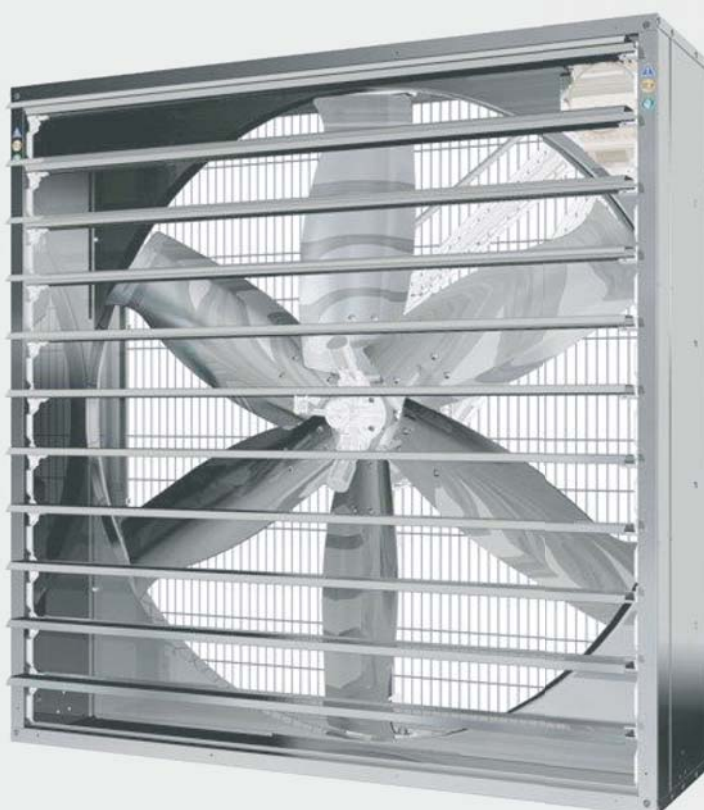

Fig.1
- On both sides of each machine (interior / exterior) and in a visible position (**Figure 1**), the hazard warning pictograms have been displayed to warn about the presence of residual risks that cannot be avoided or cannot be sufficiently limited by measures, methods or work organisation systems, nor by technical protection means.
- Although all standard models leave the factory with the interior metallic guard mesh (**Figure 1-A**), it is possible to order upon request the **S&P** HIT / HIB safety kit (exterior metal guard mesh) to protect the exterior (**Figure 1-B**).